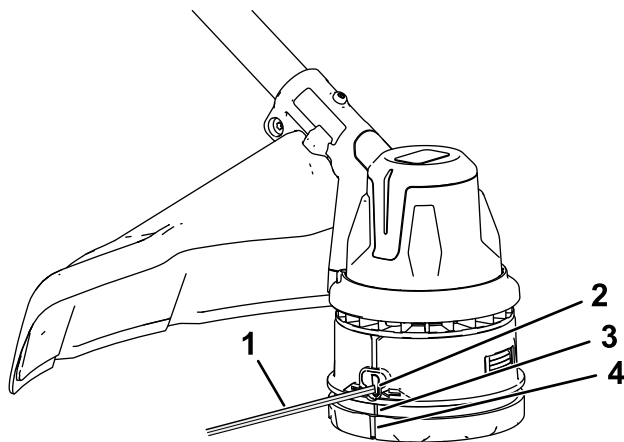

Figure 15
4. Press and turn the bump head in the direction shown by the arrows (clockwise) on the bottom of the bump head until the marks on the side of the bump head align with the marks beneath the eyelets (Figure 15).